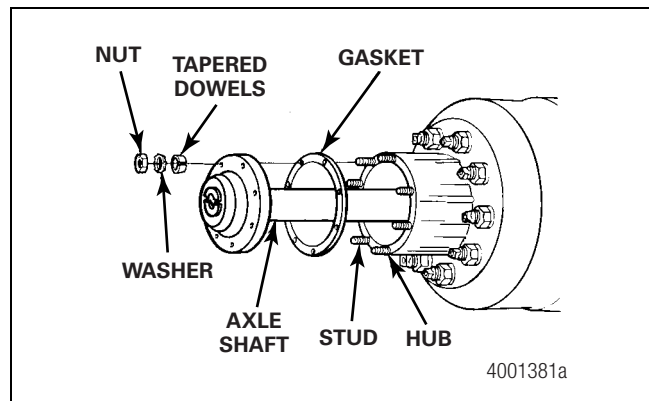

Figure 3.7
3. For drive axles, remove the stud nuts and the washers from the flanges of both axle shafts. For center axles, remove the nuts and the washers from both hubcaps. Remove the hubcaps. Figure 3.7.